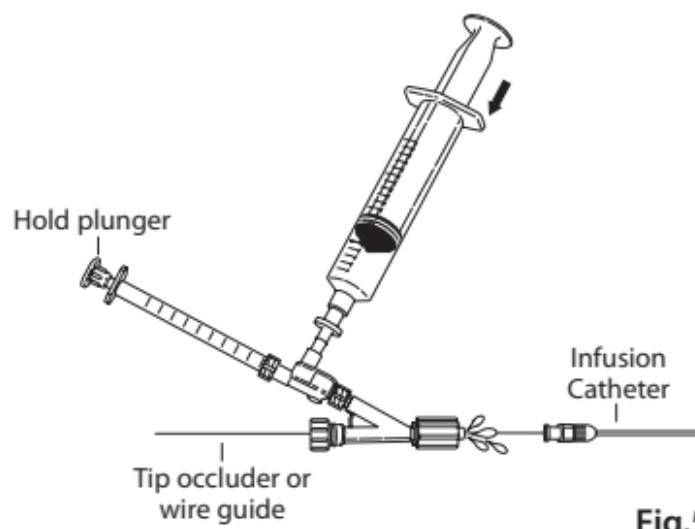

Fig.5
- To attach the dual check valve and Tuohy-Borst adapter to the infusion catheter, loosen the Tuohy-Borst valve and slide the assembly over the tip occluder. Before attaching the assembly to the catheter, hold the 1 mL syringe plunger stationary and depress the 20 mL syringe, making sure all air is purged from the assembly. Leave a meniscus of solution on the Luer lock fitting of the Tuohy-Borst adapter before connecting to the infusion catheter. (**Fig. 5**)